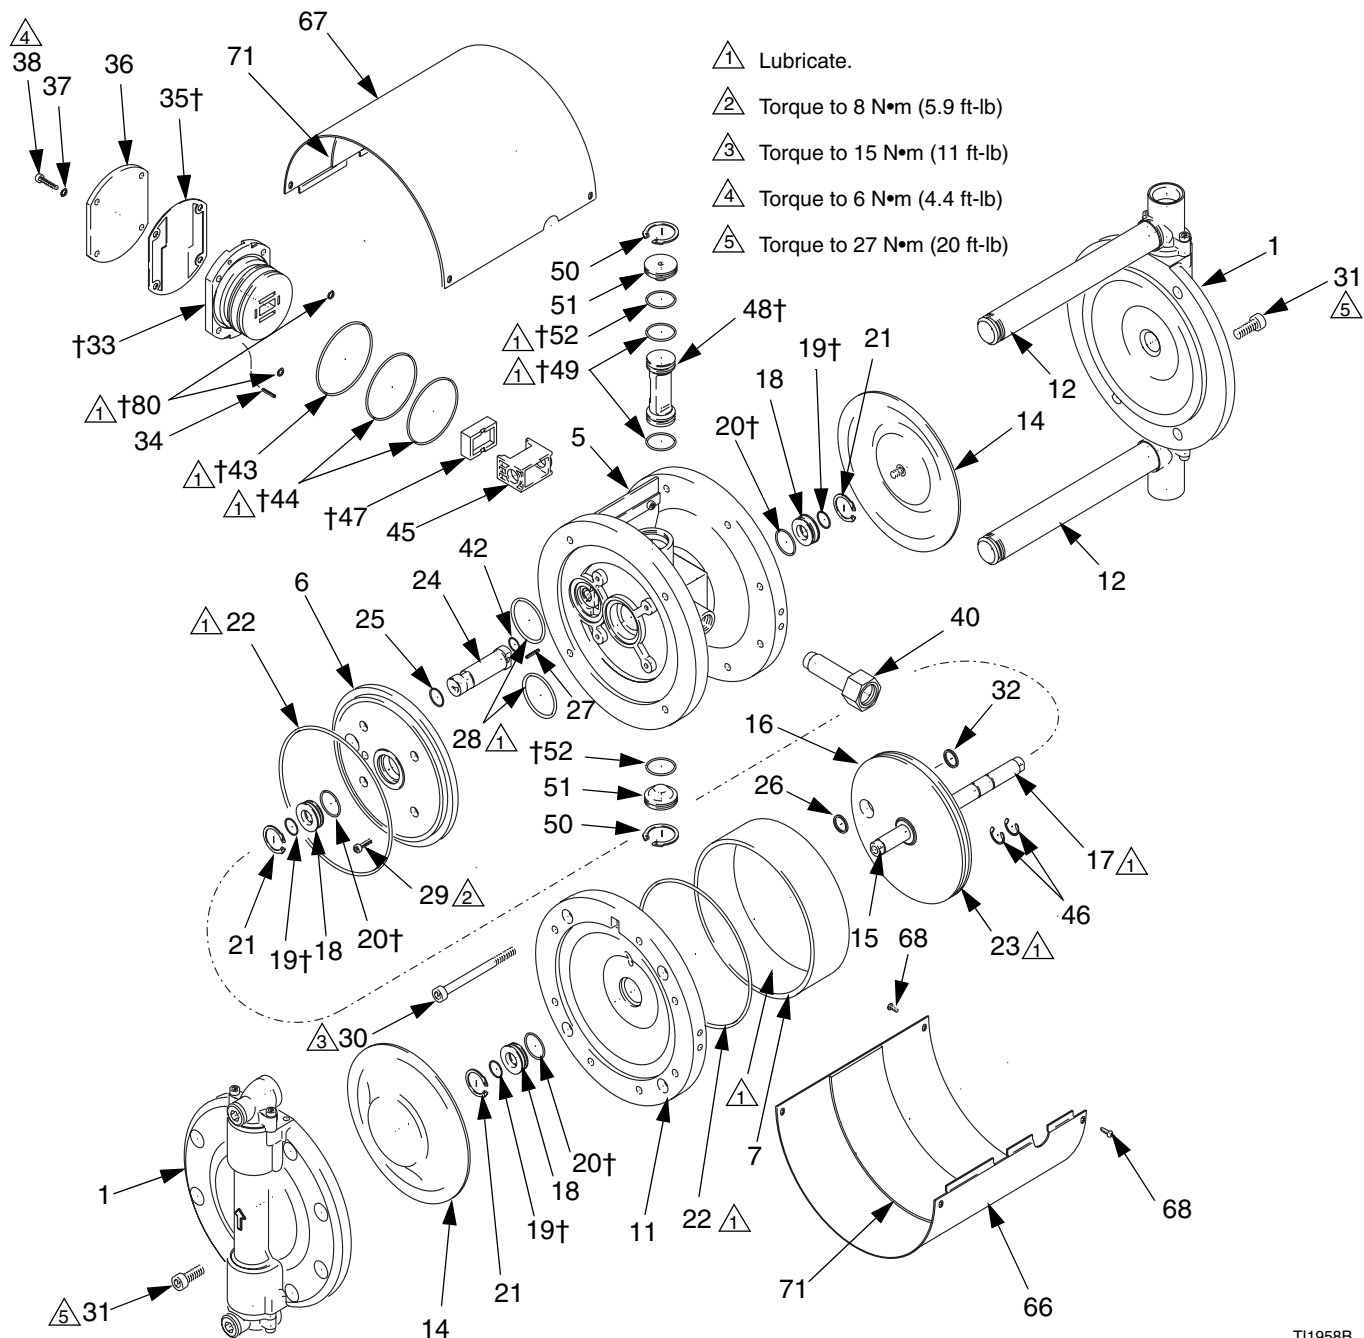

FIG. 7. Repair the Air Valve
2. Remove the screws (31) from one fluid cover (1). Pull the cover assembly off, separating it from the fluid tubes (12). See FIG. 7.
3. Remove the screws (31) and the other fluid cover (1) assembly, keeping the fluid tubes (12) attached.
4. Remove the air inlet fitting (40).
5. Remove the screws (68) and the top (67) and bottom (66) covers.
6. Remove the diaphragms (14), page 16.
7. Remove the four screws (38) and washers (37), air valve cover (36), and gasket (35).
8. Pry the air valve seat (33) out of the housing (5), using two screwdrivers inserted in the recesses on the seat. Remove the o-rings (43, 44, and 80) from the seat.
9. Remove the cup (47) from the center housing.
10. Remove the two clips (46) from the shaft (17).
11. Remove the screws (30), cylinder outer cover (11), and cylinder (7). Do not lose the o-rings (22).
12. Pull out the piston (16) and shaft assembly.